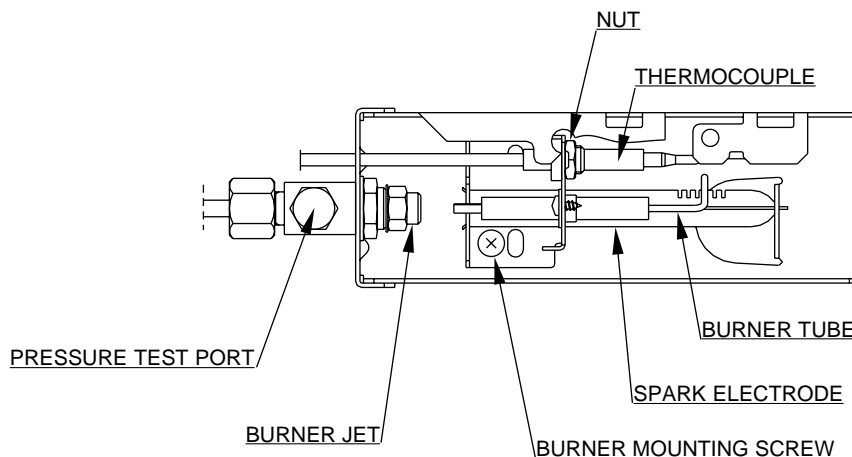

FIG. 11
- C. The LP gas pressure should be checked and the main regulator readjusted if pressure is incorrect. The correct operating pressure is 2,7 kPa. The correct place to take the LP gas pressure is at the test port just ahead of the burner jet. (See FIG. 11).
6. Remove the burner mounting screw and remove the burner assembly. (See FIG. 11).